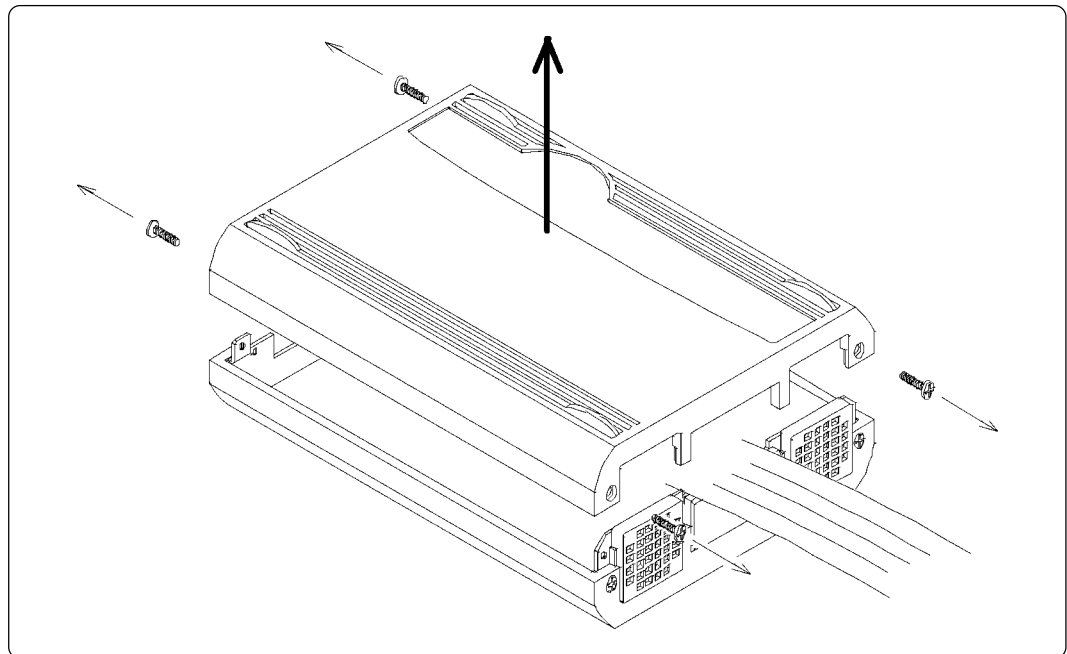

Figure 3.1 Removing the upper cover
- (1) Remove the four screws of both sides of this product and lift off the upper cover (see Figure 3.1).
- (2) Set the jumper switches etc.
- (3) Replace the upper cover and secure the four screws.